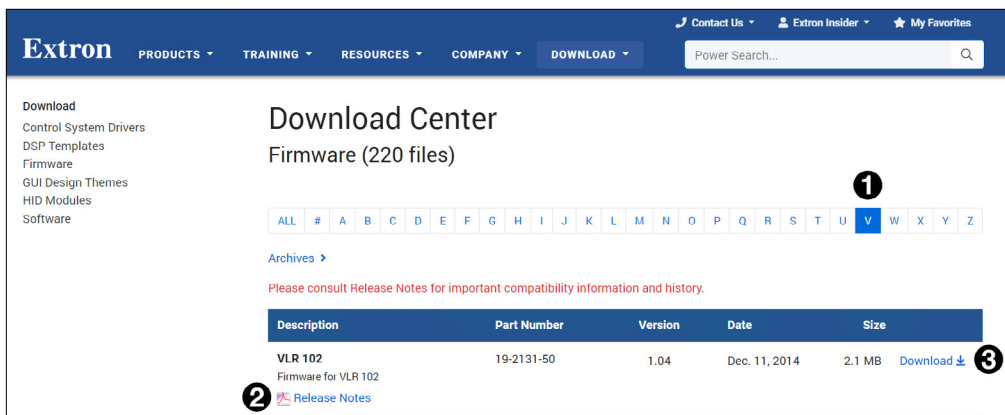

Figure 39. Selecting Firmware to Download.
3. Click the letter **V** from the list of letters (see figure 39, ❶).